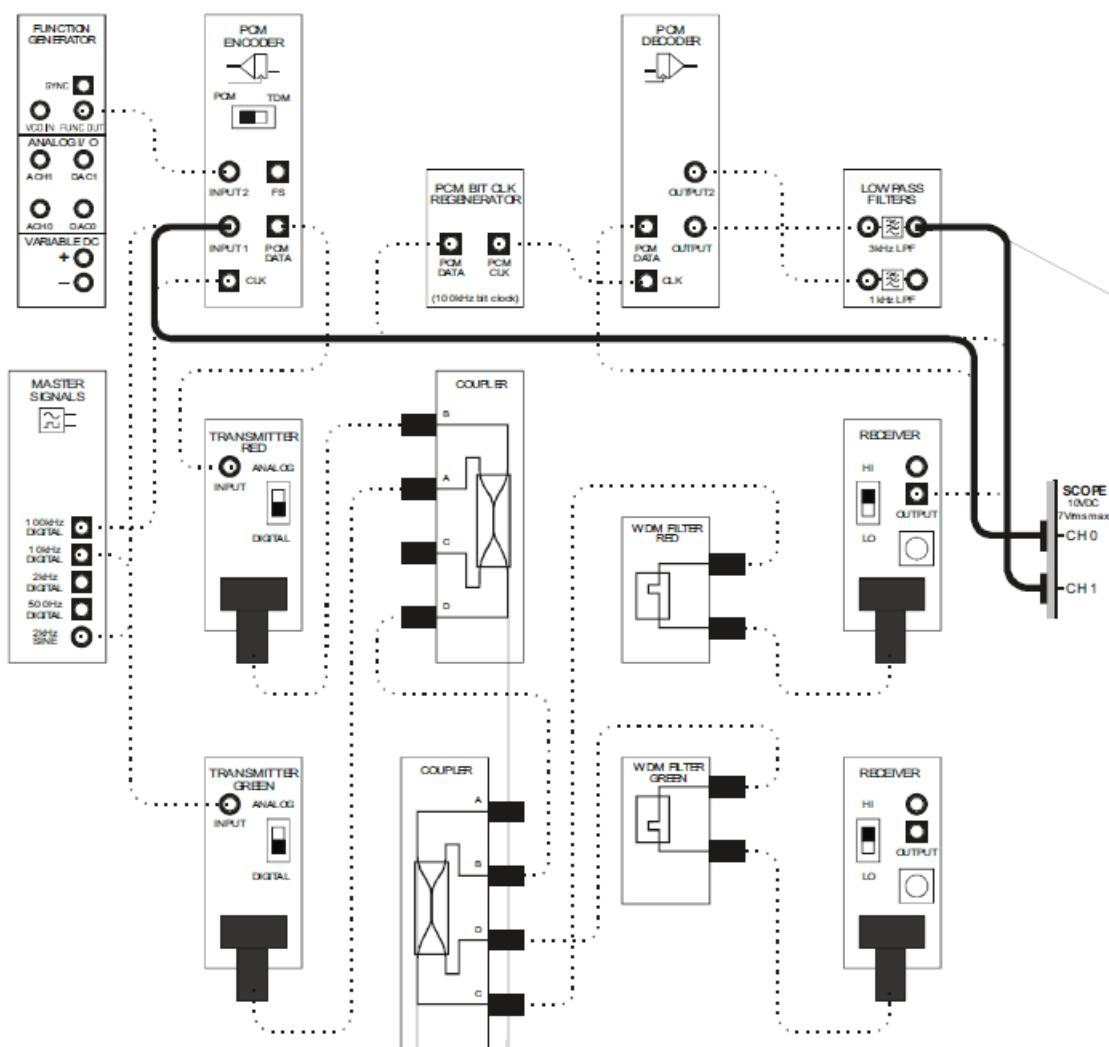

Figure 14
46. Modify the scope's connections to the set-up as shown in Figure 14 below.